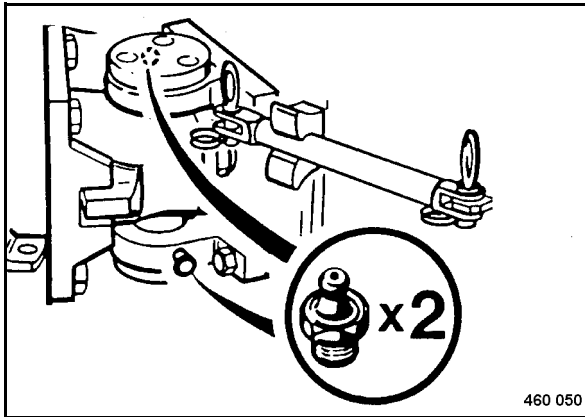

Fig. 67
- Clean the grease nipples (Fig. 67) and lubricate with approx. 5 strokes from the grease gun.